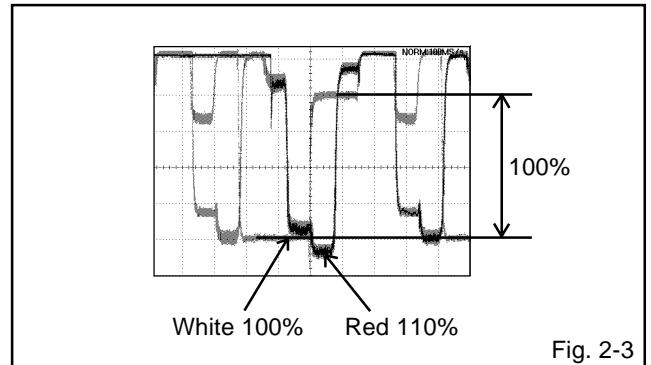

Fig. 2-3
8. Press the VOL. UP/DOWN button on the remote control until the red color level is adjusted to 110% of the white level. (Refer to **Fig. 2-3**)